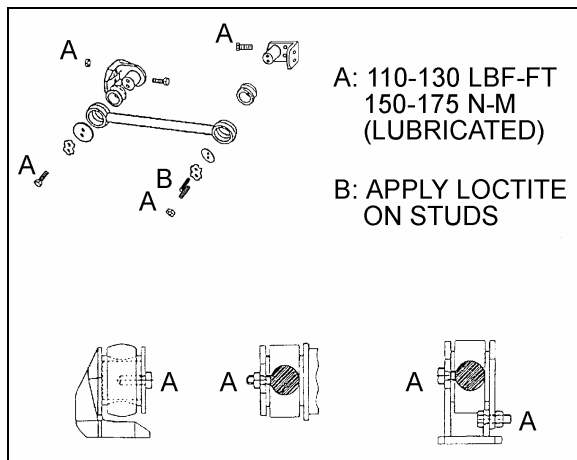

FIGURE 45: RADIUS ROD INSTALLATION
1. Lightly spray the radius rod support with water. Place the radius rod end over the radius rod support (Fig. 45).